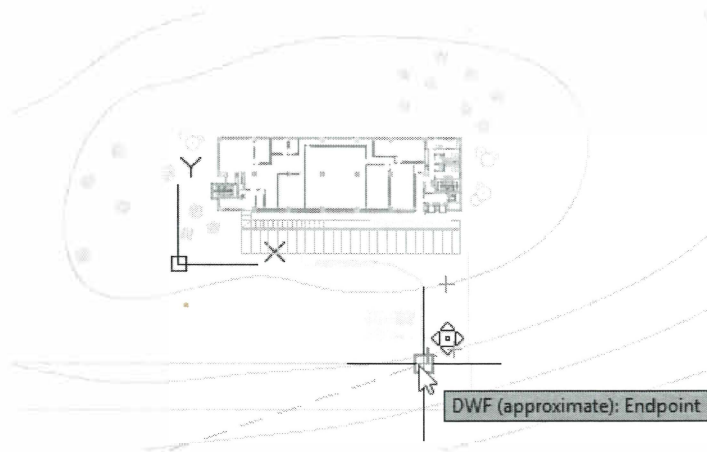

Figure 11-45
2. Move **Factory Landscape-M.dwg** (file with trees that was placed along the left side of the drawing) so that the existing road in the DWF file is at the end of the entrance to the parking lot, as shown in Figure 11-45. In the landscape drawing, use the bottom left endpoint of the vertical portion of the road as your base point and snap it to the right endpoint of the top horizontal line of the road in the site DWF, as shown in Figure 11-45.